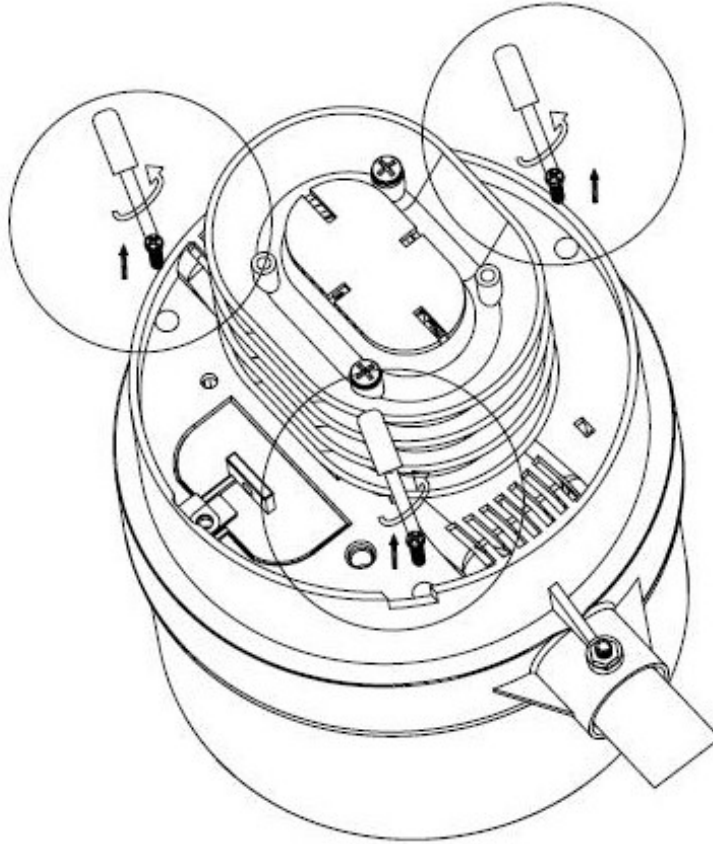

Figure 41
1. Reference Figure 41. Loosen the three recessed screws on the bottom of the rain gauge assembly until there is little tension.